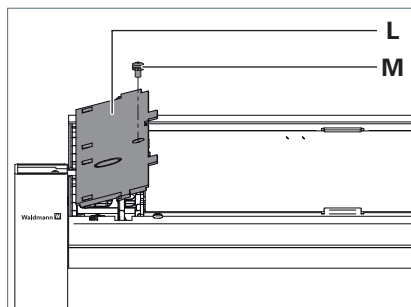

Fig. 6: Mounting the cover.
- Insert the cover **L** with the hooks on the bottom side of the cover into the eye-lets on the luminaire head and press the cover firmly, see Fig. 6.